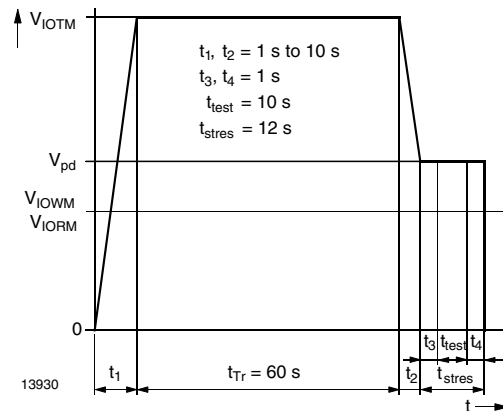

Fig. 6 - Test Pulse Diagram for Sample Test According to DIN EN 60747-5-5 (VDE 0884-5); IEC60747-5-5
- According to DIN EN 60747-5-5 (see Fig. 6). This optocoupler is suitable for safe electrical isolation only within the safety ratings. Compliance with the safety ratings shall be ensured by means of suitable protective circuits